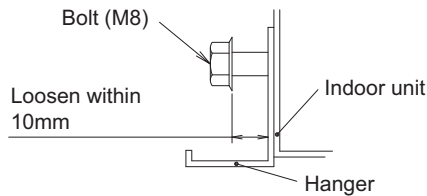

Fig. 7
- Open the knock hole at the wiring inlet side at the rear surface or top surface, and install the attached resin bushing (10).
- Loosen 2 bolts for installing the hanger at both sides (M8) (4 places at left and right) within 10mm. (Refer to Fig. 7 and Fig. 8)